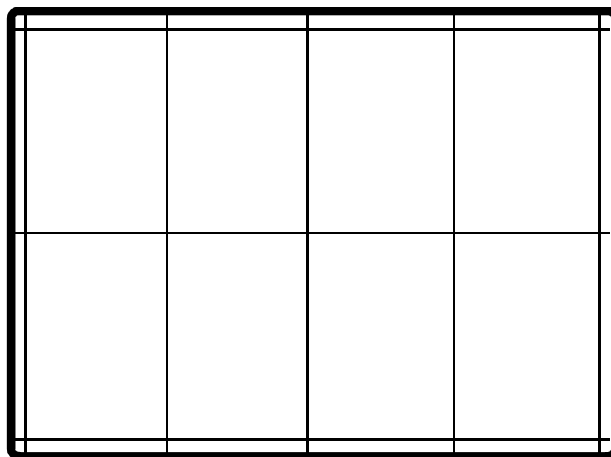

Figure 15-22, Completed Convergence Alignment Screen
10. Now that the exact center of the screen is known, place the remainder of the convergence reference strings on the screen by measuring outward from the center lines. Chipper Check will provide the exact dimensions for the remaining 2 vertical and 6 horizontal lines. The screen should now look like figure 15-22.